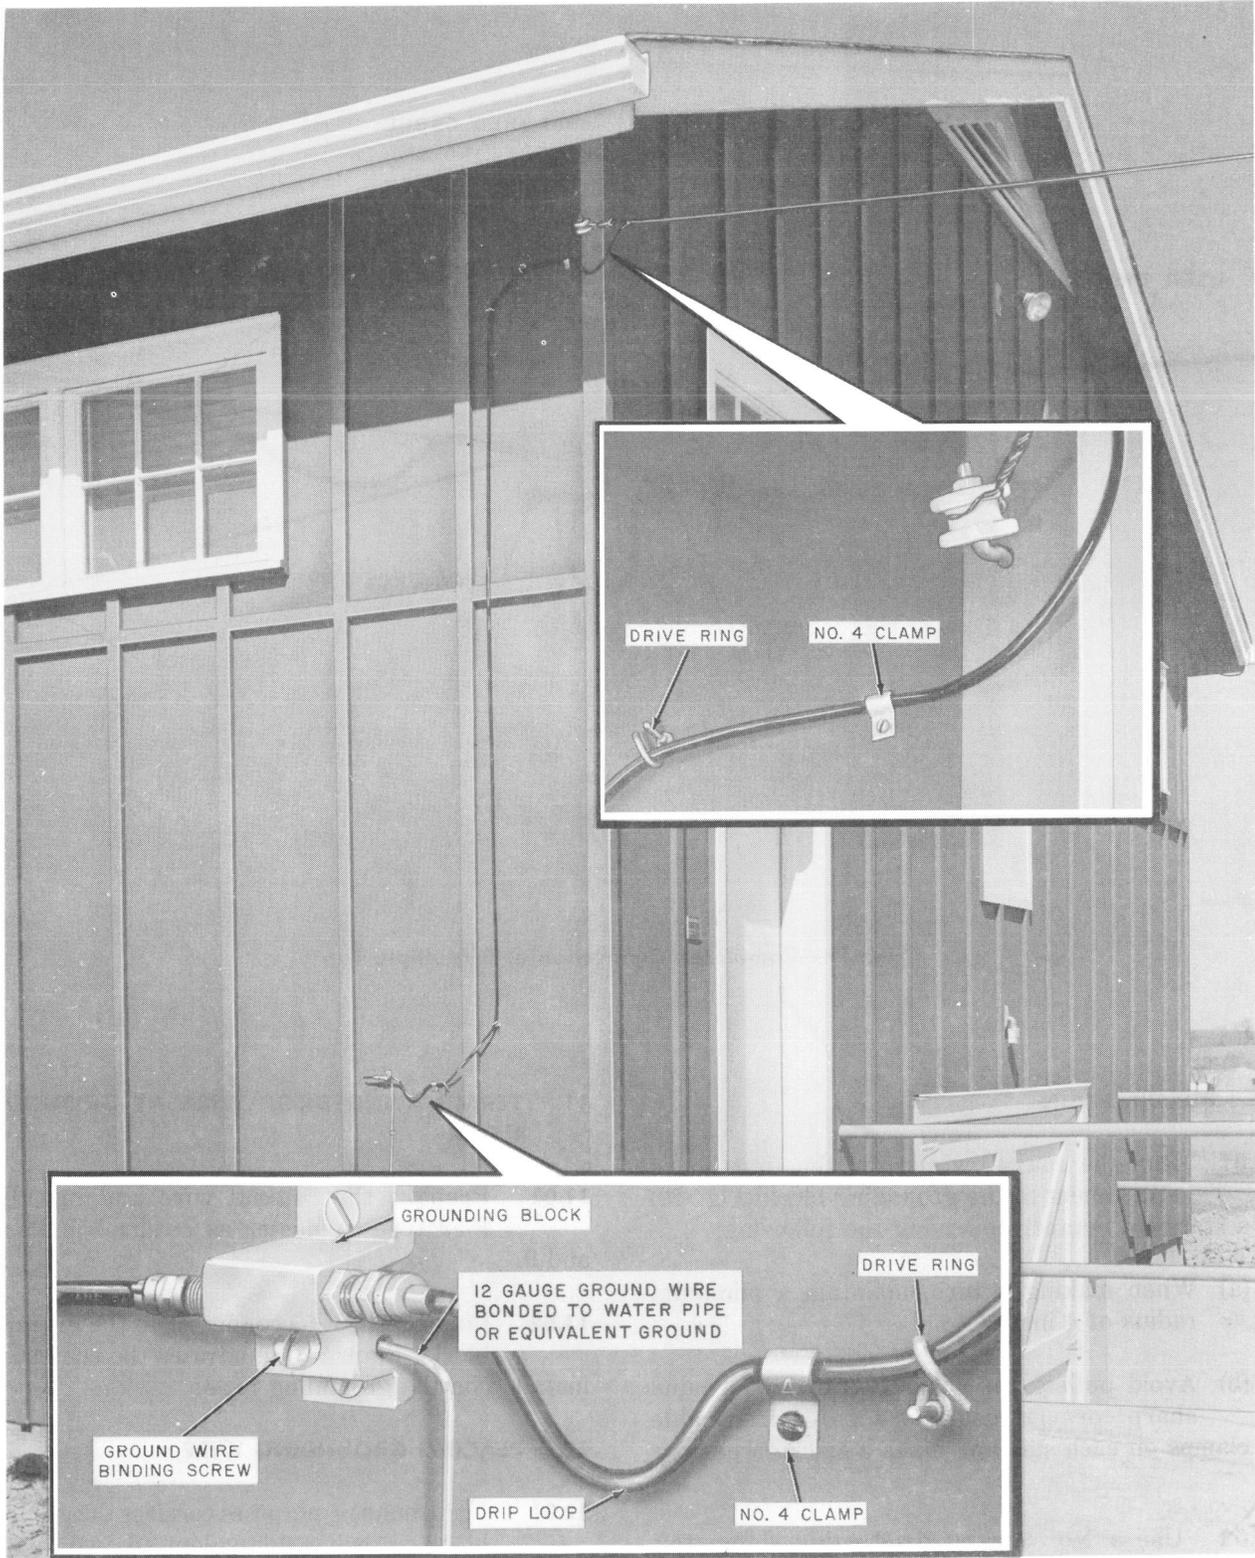

Fig. 20—Building Run
10.01 Run the coaxial wire from the first house attachment to the grounding block (Fig. 20) in a standard manner observing the following:
11.02 Connect the F-59 connector to the grounding block. Figure 20 illustrates the coaxial wire installed on the grounding block.